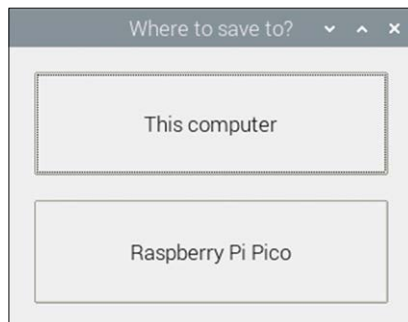

Figure 2.13: Click Raspberry Pi Pico to save your program.
- Click **File** followed by **Save As** and give a name to your program. e.g. **FirstProg**. You have the option of storing the program either on your Raspberry Pi or on the Pico. Click **Raspberry Pi Pico** to save it on the Pico (Figure 2.13). Enter the name of your program (**FirstProg**) and click **OK** (notice that the file is saved with the extension **.py**).